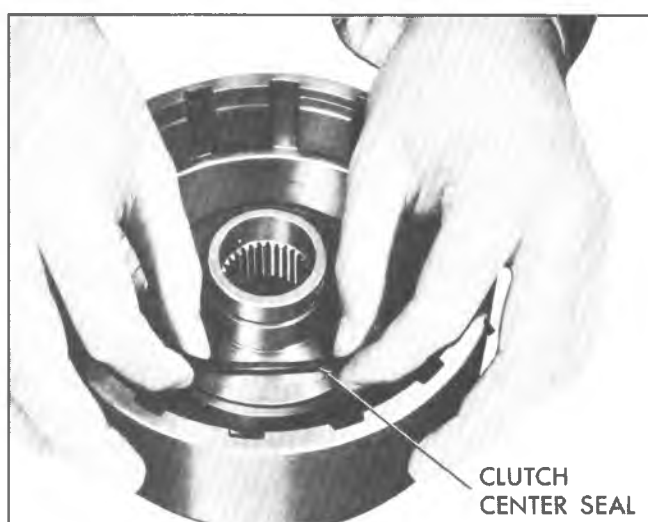

Fig. 86T--Installing Direct Clutch Center Seal
3. Install a new center seal on clutch housing with lip of seal facing up (fig. 86T).